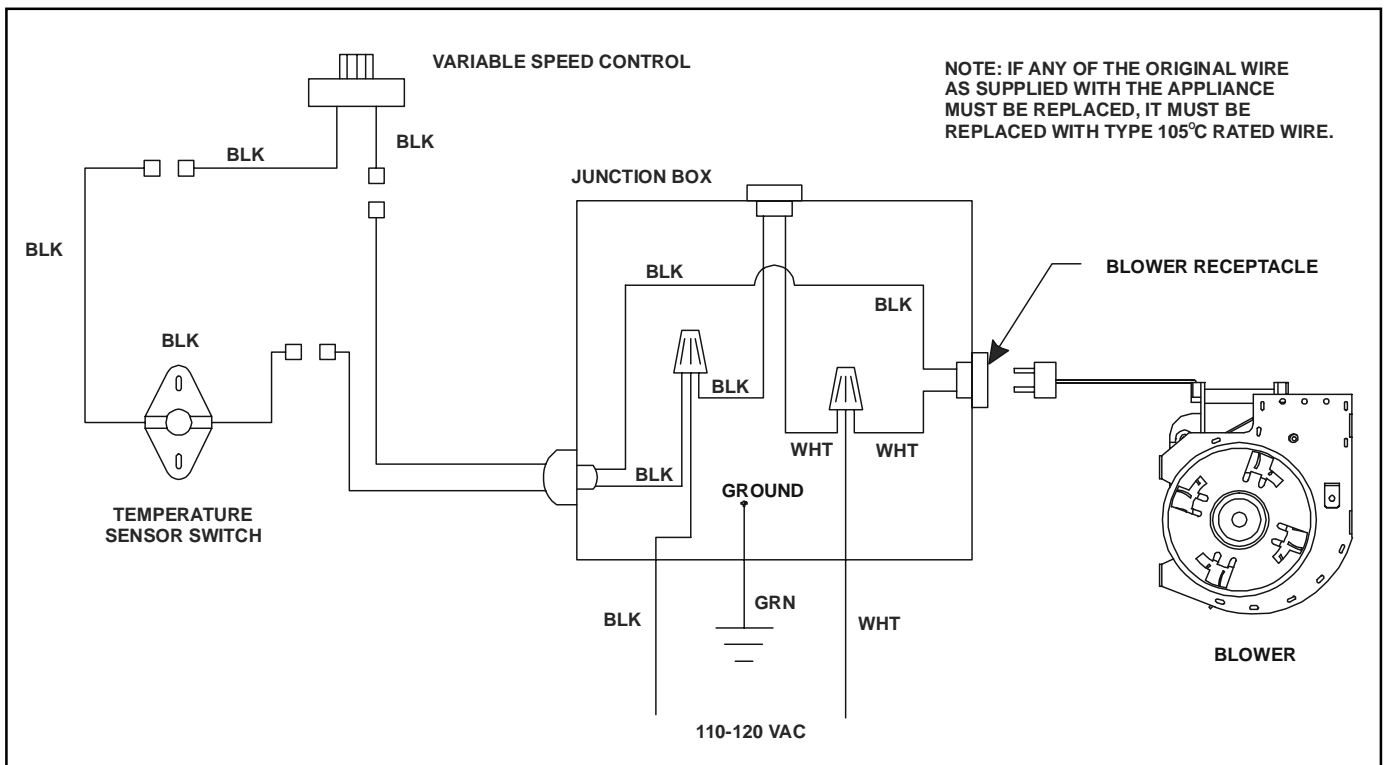

FIGURE 5 Fan Wiring Diagram
3. Connect the variable speed control and the temperature sensor switch to the short lead wires of the junction box by plugging in the male to female connectors. See Figure 5 - Fan Wiring Diagram.